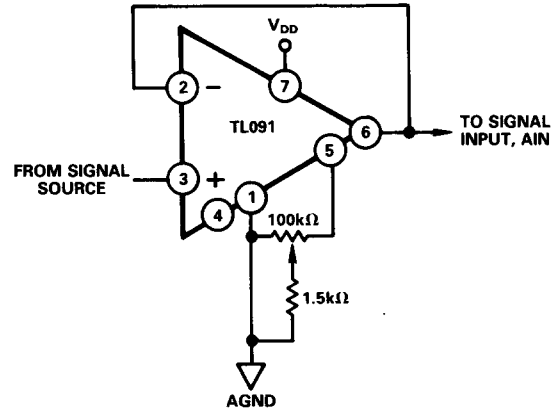

Figure 13. Offset Adjust Circuit
- 3. OFFSET ERROR:** Offset error adjustment in single-supply systems may be easily achieved by means of the offset null facility of an op-amp when used as a voltage follower for the analog input signal AIN (see Figure 13). The op-amp chosen should be able to operate from a single supply and allow a common-mode input voltage range that includes 0V, e.g. TL091. To adjust for zero offset error the input signal source is set to +4.8mV (i.e., 1/2 LSB) while the 100kΩ potentiometer is varied until the ADC output code flickers between 000...00 and 000...01.